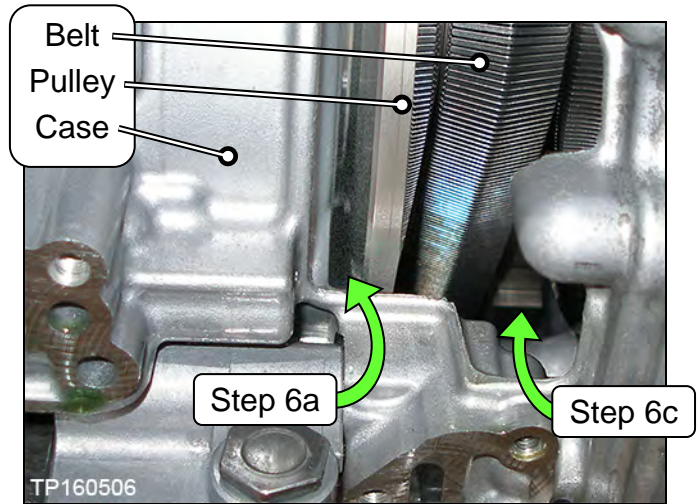

Figure 3A
- a. Insert the camera lens between the CVT case and pulley where shown in Figures 3A and 4A.
- Insert the lens approximately seven (7) inches, and then view the side of the belt that contacts the pulley.
- Insert the the camera lens in the second location where shown in Figure 3A and 6A, and then perform step 6b again.